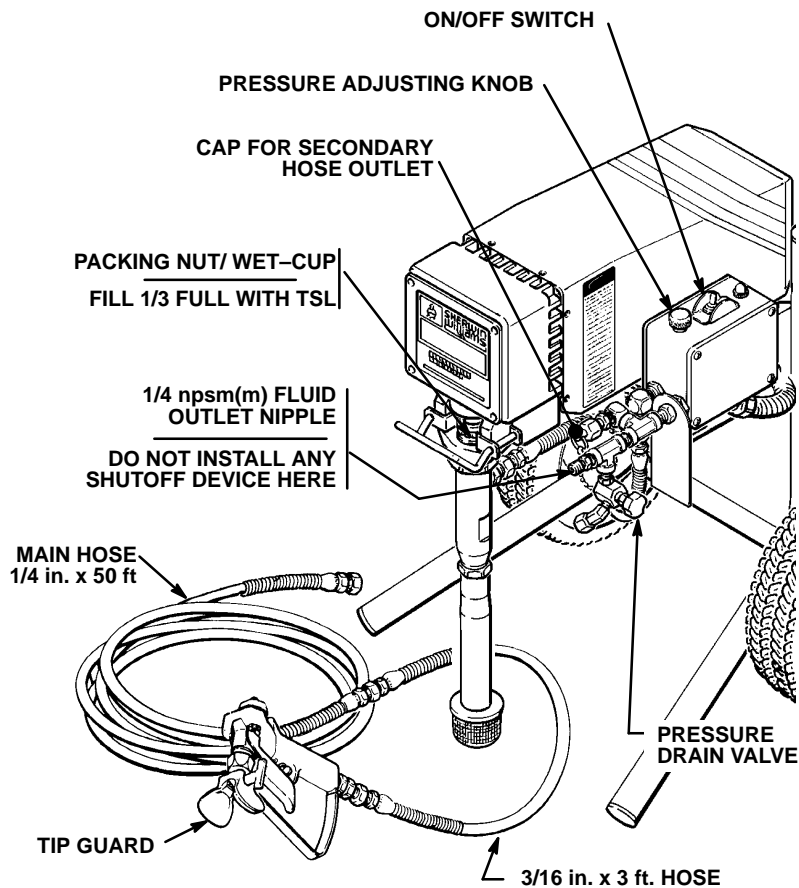

Fig 10-1
3. Never install any shutoff device between the filter and the main hose. See Fig 10-1.